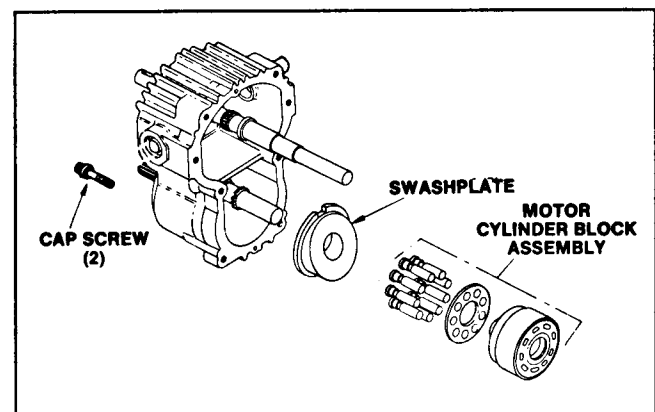

Figure 49
11. Install the fixed position swash plate into the counterbore of the transmission housing (Fig. 49). Orient the swash plate so that the notch is at the top (high point of the cam angle is toward the bottom) and install the cap screws through the transmission case to secure it in place.
12. Assemble the cylinder block parts, if necessary, and lubricate them with clean SAE 10W30 or 10W40 SE, SF oil. Keep in mind that although there is no special order of pistons to bores with a given cylinder block assembly, do not interchange parts from another cylinder block group. Place the transmission housing assembly in a horizontal position (Fig. 49). Slide the motor piston group over the motor shaft and engage the splines. Be certain that the pistons remain in place within the cylinder group.